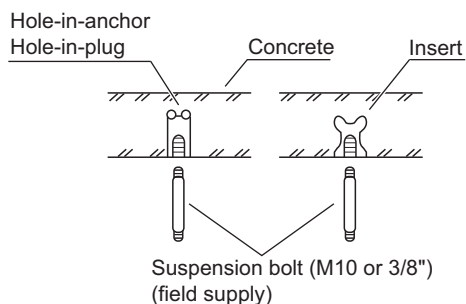

Fig. 1-110
- Insert suspension bolts (Fig. 1-110)
- (2) Screw in the suspension bolts allowing them to protrude from the ceiling (Fig. 1-110). (Cut the ceiling material, if necessary.)